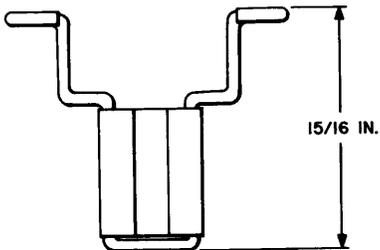

Fig. 12—749A or B Balancing Spring Holder Tool
2.08 749A and B: The 749A and B balancing spring holder tools (Fig. 12) consist of a formed metal wire holder held rigidly by a metal plate used as a finger grip.